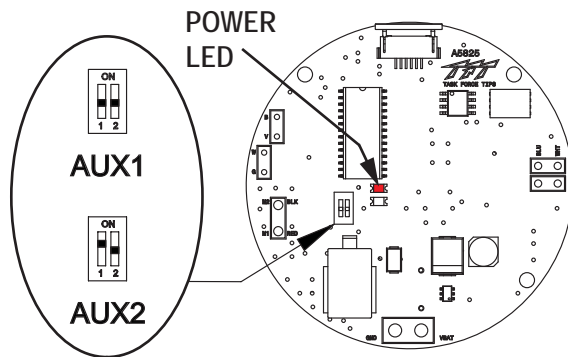

Figure 4.8a
3. Slide DIP switch #1 to desired position (see figure 4.8a)